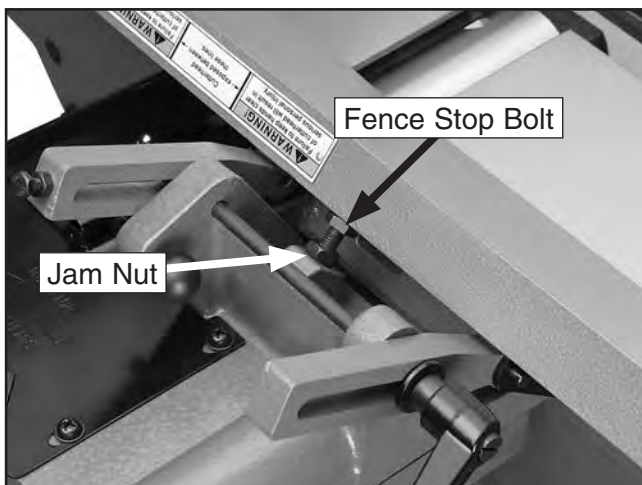

Figure 76. 45° outward fence stop bolt.
3. Loosen the jam nut on the 45° outward fence stop bolt (see **Figure 76**).